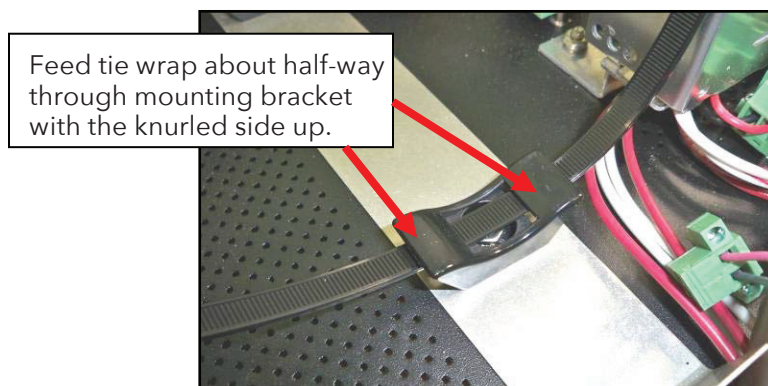

Figure 3. ROUTING THE TIE WRAPS THROUGH THE MOUNTING BRACKETS.
11. With the knurled side up, route the tie wraps supplied with this kit through the canister mounting brackets located on the chassis floor. Try to center the tie wrap in the bracket. Refer to Figure 3.